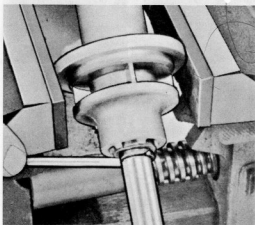

Fig. 4.11. Removal of the snap-ring from the distributor driveshaft (Sec. 7)
- 6 Now prise the spring ring which retains the distributor shaft in the distributor casing out of this slot in the shaft just below the casing (Fig. 4.11).